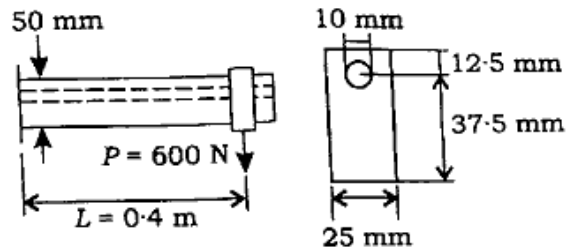

Fig. 1
3. A cantilever beam with a rectangular cross-section has a longitudinal hole drilled throughout its length is shown in Fig. 1. The beam supports a load  $P = 600 \text{ N}$ . The cross-section is 25 mm wide and 50 mm high and the hole has a diameter of 10 mm. Find the bending stresses at the top of the beam, at the top of the hole and at the bottom of the beam. <https://www.akubihar.com> 14